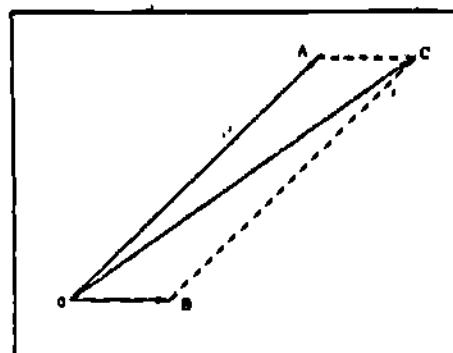

Figure 23. Parallelogram Method of Adding Vectors
c. **Addition of Vectors** - You can obtain the same result by an alternate method. If you place the two vectors at the origin, and form a parallelogram with OA and OB as adjacent sides, the diagonal will be the resultant force. This is referred to as the parallelogram law of forces and may be applied to the addition of any set of vector quantities (Figure 23).